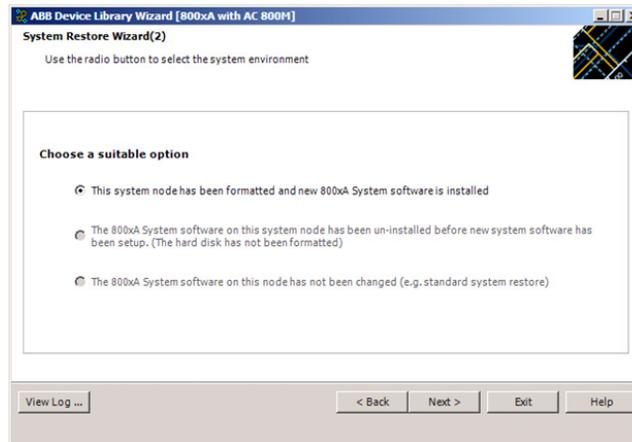

Figure 26. System Restore Wizard (2)
- Choose the first option as shown in Figure 26 and click **Next**.